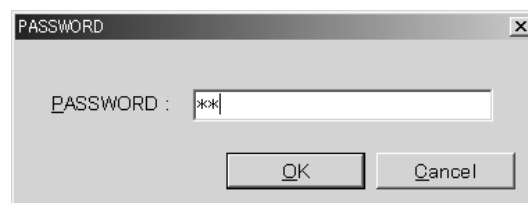

Figure 5-203
- 5) The password screen is displayed, so after inputting "qp", select [OK]. (See Figure 5-203.)